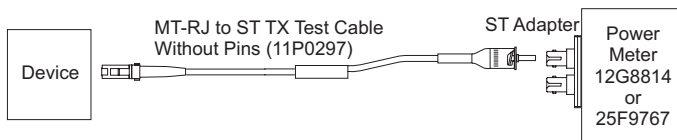

Figure C-9. Measuring Transmit-Out Power for A ESCON Link With MT- RJ Connectors
- Figure C-9 on page C-6; ESCON multimode link with MT–RJ connector